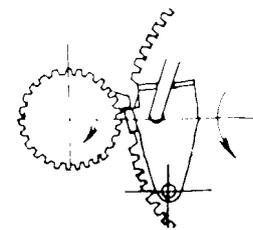

Fig. 3
- When playing ends and the pick-up cartridge enters the lead-out groove which is spaced out, the engagement advances more than it is returned by the projection. Because of this, the engagement is pressed by the projection as shown in Fig. 3, causing the main gear to turn and engage with the turntable spindle gear. Thus the change cycle is started.